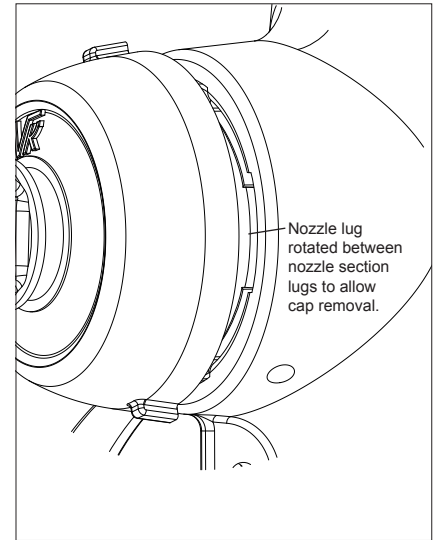

Fig. 3C
1. Insert the greased Cap/Nozzle assembly into the nozzle section outlet until the nozzle lugs are in line with the nozzle section lugs as shown in Fig. 3C.